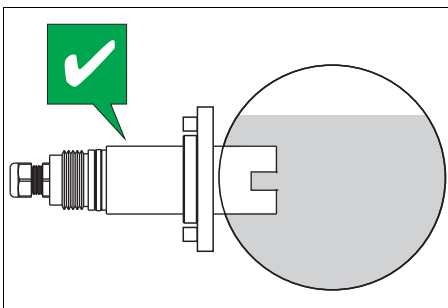

Fig. 7: Orientation of OUSAF11
- The best installation location is in the ascending pipe (item 1). Installation is also possible in the horizontal pipe (item 5).
- Do not install the sensor in places where air may collect or foam bubbles form (item 3) or where suspended particles may settle (item 2).
- Avoid installation in the down pipe (item 4).
- Orientate the sensor in such a way that the medium flows through the measurement section (self-cleaning effect), refer to figure 7: Orientation of OUSAF11.